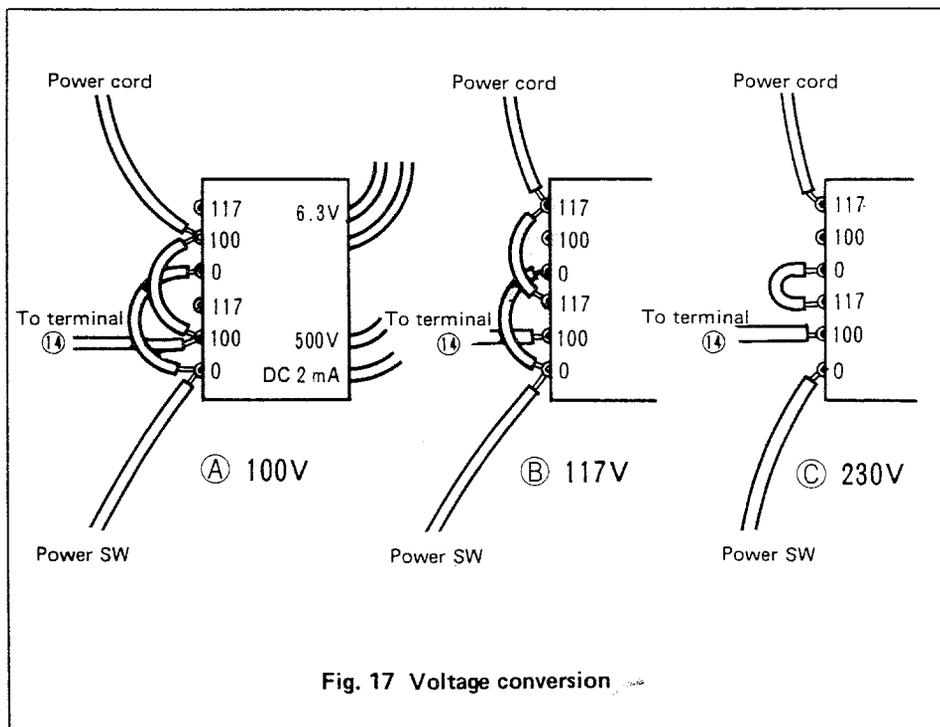

Fig. 17 Voltage conversion
- 2) The power transformer is wired as shown in Fig. 17. If the oscilloscope is to be operated on another voltage, change the wiring and re-solder referring to Fig. 17.